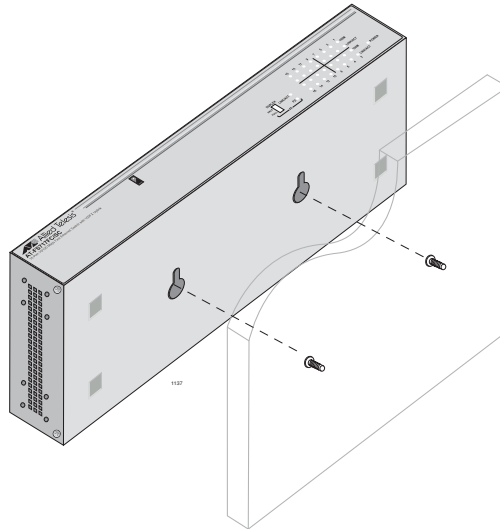

Figure 11. Wallmounting an AT-FS717FC/SC Switch
7. Position and hang the switch onto the wall using the two keyhole slots located in the bottom of the switch, as illustrated in Figure 11.